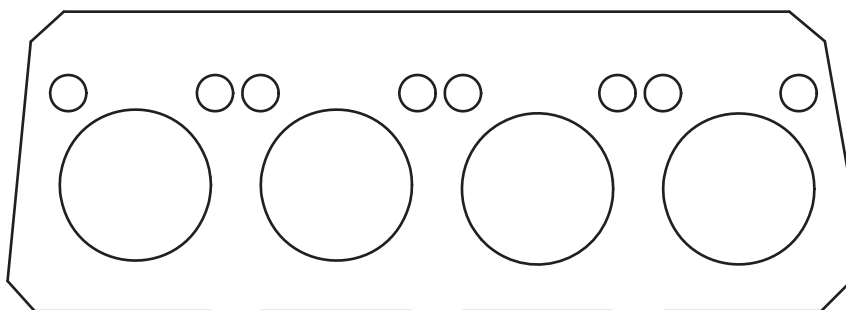

Fig. 16-2
Let's remove (break out) sections of the gasket so that it looks like the drawing in Fig. 16-2 on page 200. As you know, the bottom edge of the gasket was drawn as a single, continuous line. Therefore, if you were to use the **ERASE** command, it would erase the entire line. The **BREAK** command, however, allows you to "break" certain objects such as lines, arcs, and circles.
3. Pick a point on the line where you would like the break to begin. Since the locations of the breaks in Fig. 16-2 are not dimensioned, you may approximate the location of each start point.
The piece of the line between the first and second points disappears. Let's break out two more sections of approximately equal size, as shown in Fig. 16-2.